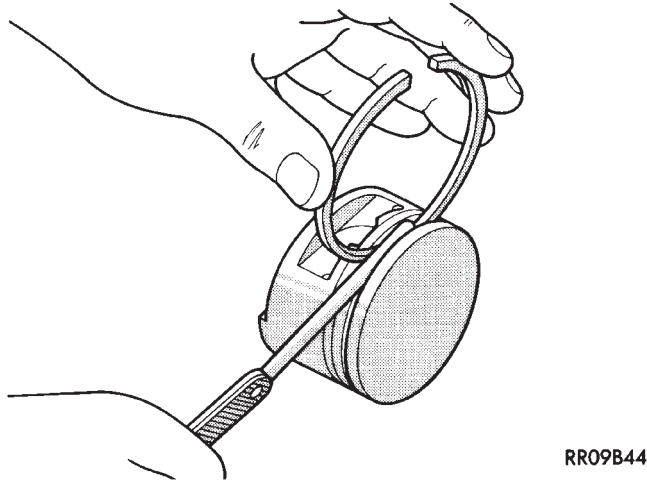

Fig. 7 Piston Ring Groove Clearance
(2) Check piston ring to groove clearance (Fig. 7); Refer to Piston Ring Specification Chart.